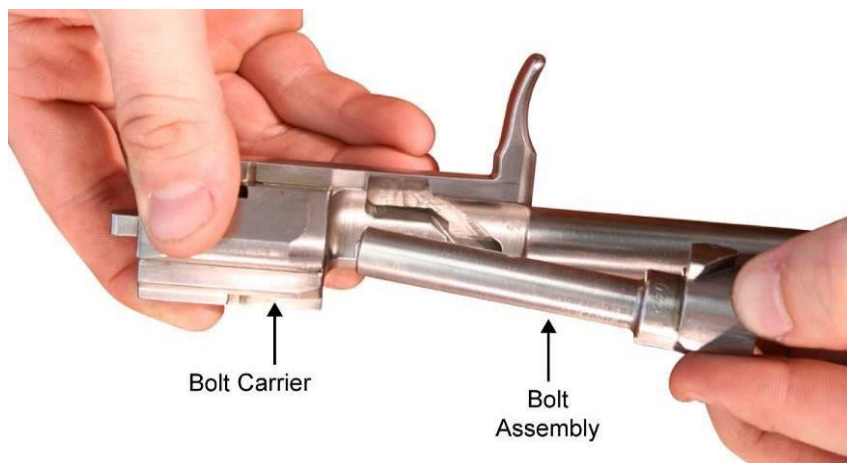

Figure 3. Pulling the Bolt Assembly Out of the Bolt Carrier.
3. Pull the bolt assembly completely out of the bolt carrier. Refer to Figure 3.